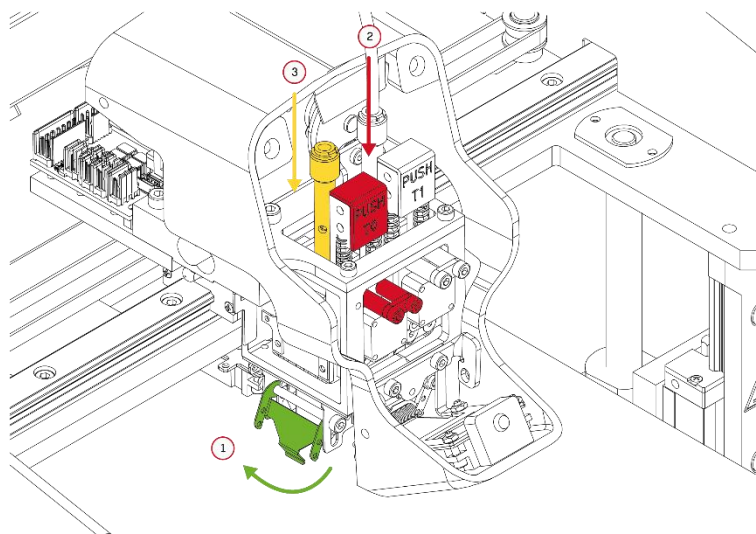

Fig. 53 Sliding the hotend out
5. With one hand, gently bend the stopper to the left (in the case of T0 hotend) or to the right (in the case of T1 hotend) – in fig. 53, marked in green. At the same time, press fully and hold the PUSH key (fig. 53, red colour) and push the hotend up while holding it from the bottom with your hand (fig. 53, yellow colour). **Make sure that the hotend does not fall on the ceramic heatbed under its own weight.**